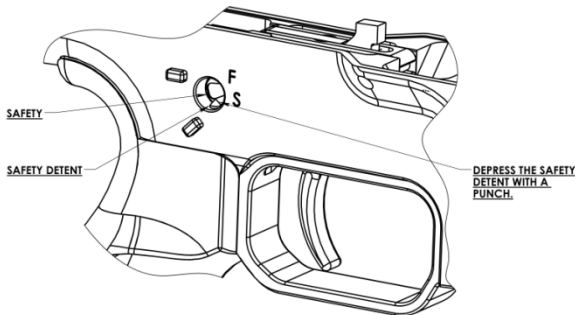

Figure 37.
2. Insert the safety into the receiver until it stops on the safety detent. Using the tip of a pen, cleaning rod or similar object, depress the safety detent and finish inserting the safety into the receiver. The safety lever must be halfway between the limiting stops on the lower receiver. (*Figure 37.*) The safety can be inserted on the opposite side to accommodate a left-handed shooter. Installation is the same.